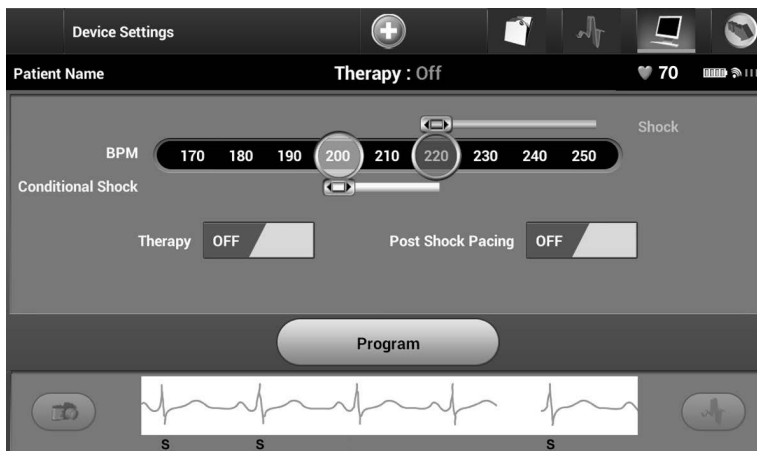

Figure 29: *Device Settings screen*
3. Select the Device Settings icon on the Navigation Bar to display the Device Settings screen (Figure 29).